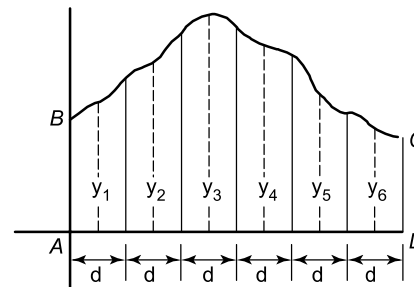

Figure 16.3
To determine the area $ABCD$ of Figure 16.3 using the mid-ordinate rule:
- (ii) Erect ordinates in the middle of each interval (shown by broken lines in Figure 16.3)